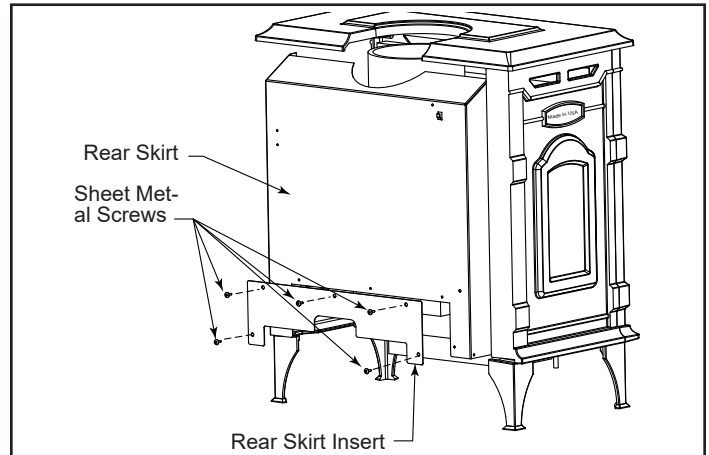
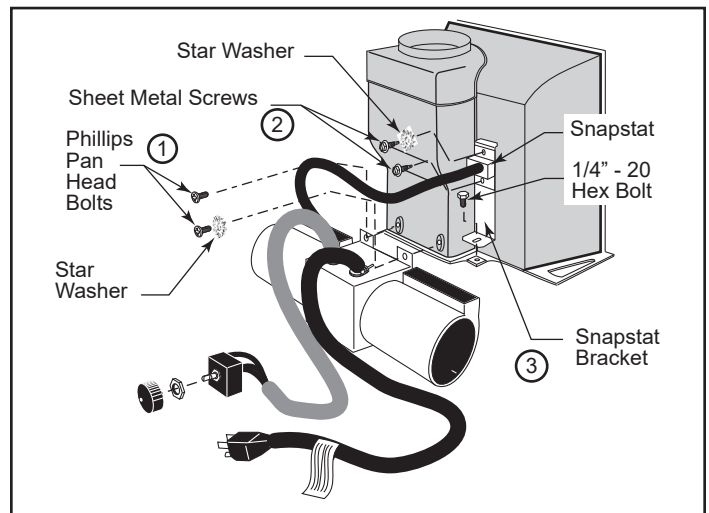

Figure 13 - Remove rear skirt insert.
Figure 14 - Attach the fan assembly and the snapstat.
2. Remove the rear skirt insert panel at the bottom of the Rear Skirt (Figure 13) and fasten the blower assembly to the firebox back with the two Phillips pan-head bolts originally installed in the firebox back. ('1', Figure 14)
3. Attach the snapstat assembly to the snapstat bracket with two sheet-metal screws. ('2', Figure 14) Attach the snapstat bracket to the stove with a hex-head bolt passing through the bracket and into the stove base. ('3', Figure 14)